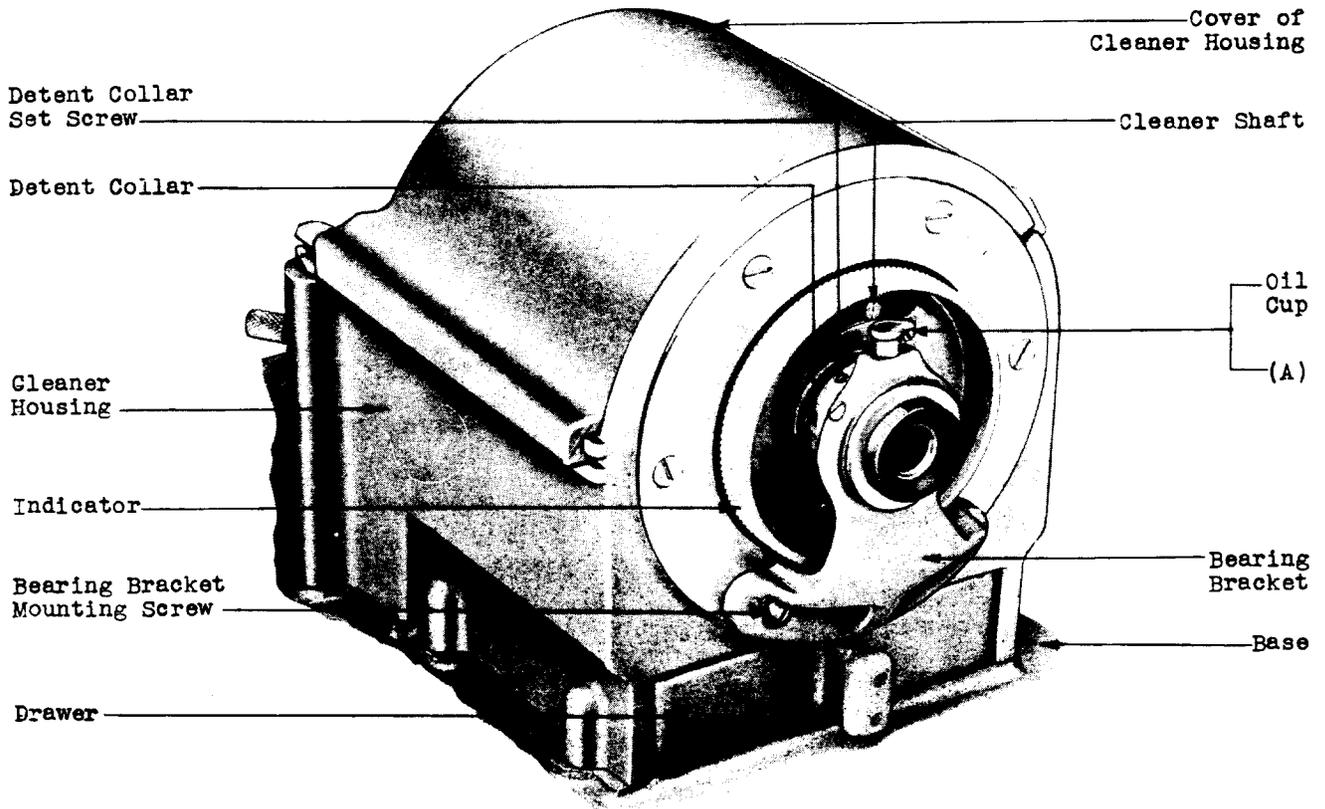

Fig. 2 - Plug Cleaner
(3) Cleaner Bearing (through oil cup at indicator end) — Fig. 2(A)